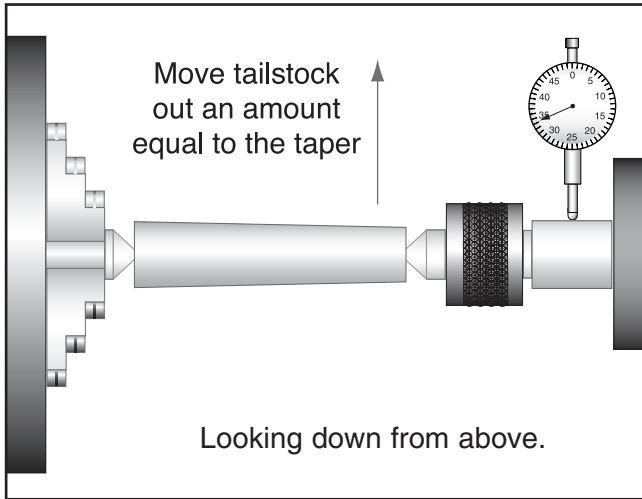

Figure 17. Adjusting for tailstock end taper.
- If the stock is thinner at the tailstock end, the tailstock needs to be moved away from the operator by at least the amount of the taper (**Figure 17**).